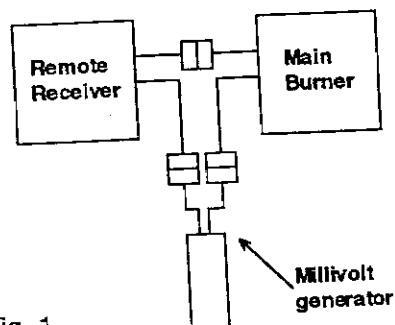
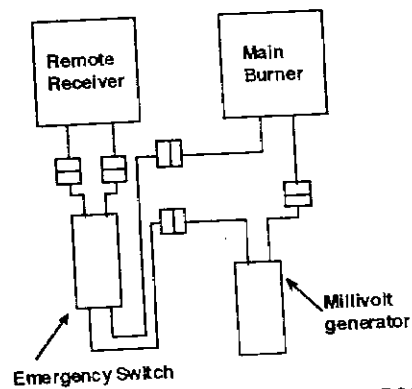

Fig. 1
Fig. 2
3. Connect the wires labelled " Main Valve " to the Millivolt generator and millivolt valve (see Fig. 1) or the Emergency Switch (Fig.2). Switch the Emergency Switch to OFF position if it is installed. Use the Emergency Switch only at power failure.